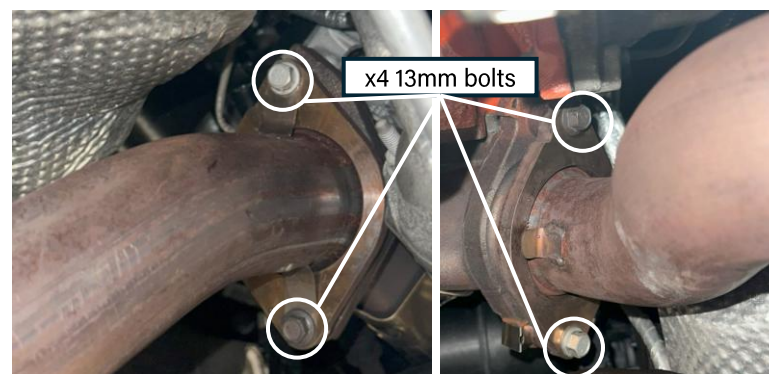

Figure 11e: Front pipe flange (driver/passenger side)
- Unbolt the passenger and driver front pipe/converter (Figure 11e)